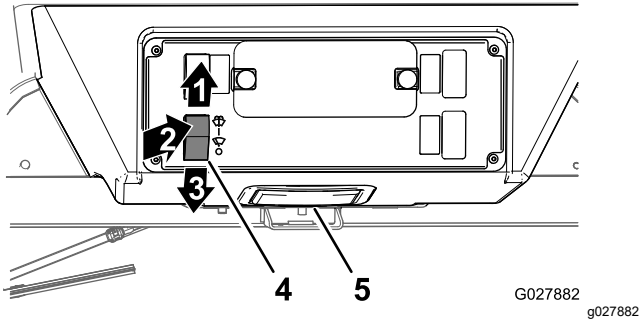

Figure 51
- Push the wiper/washer switch up to run the windshield wipers (Figure 51).
- Push the wiper/washer switch down to stop the windshield wipers (Figure 51).
- Momentarily push in the upper half of the wiper/washer switch to spray the washer fluid onto the windshield (Figure 51).